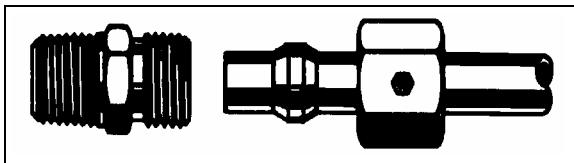

FIGURE 51: HOSE FITTING
**Compression:** Tighten nut by hand (Fig. 51). From that point, tighten using a wrench the number of turns indicated in the chart hereafter.